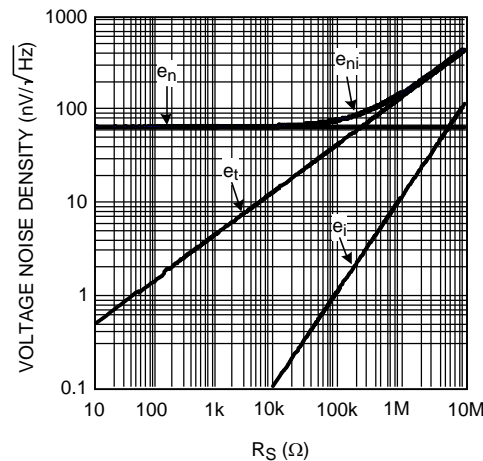

Figure 48. Total Input Noise
**Figure 48** shows the typical input noise of the LMP2231 as a function of source resistance where:
The input current noise of the LMP2231 is so low that it will not become the dominant factor in the total noise unless source resistance exceeds 300  $\text{M}\Omega$ , which is an unrealistically high value. As is evident in **Figure 48**, at lower  $R_S$  values, total noise is dominated by the amplifier's input voltage noise. Once  $R_S$  is larger than a 100  $\text{k}\Omega$ , then the dominant noise factor becomes the thermal noise of  $R_S$ . As mentioned before, the current noise will not be the dominant noise factor for any practical application.